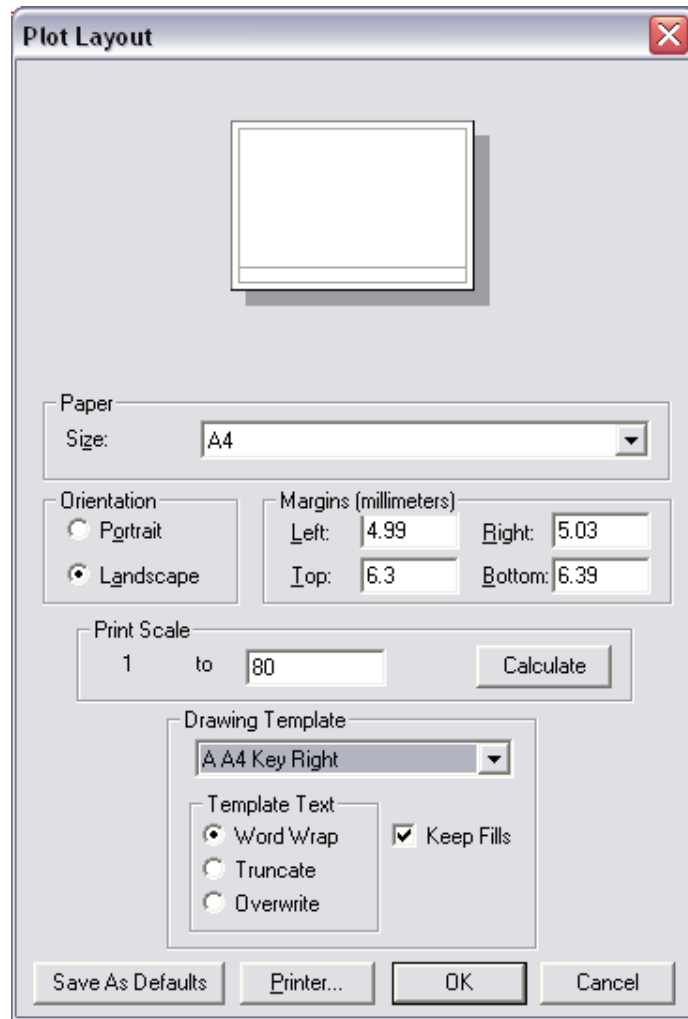

Figure PP 1
11. Check “Keep Fills”, this puts a white fill behind the legend area, preventing other parts of the design from obscuring the legend. If you are printing the entire drawing you can choose to not keep the fills. Your dialog should look like Figure PP 1. Click [OK].